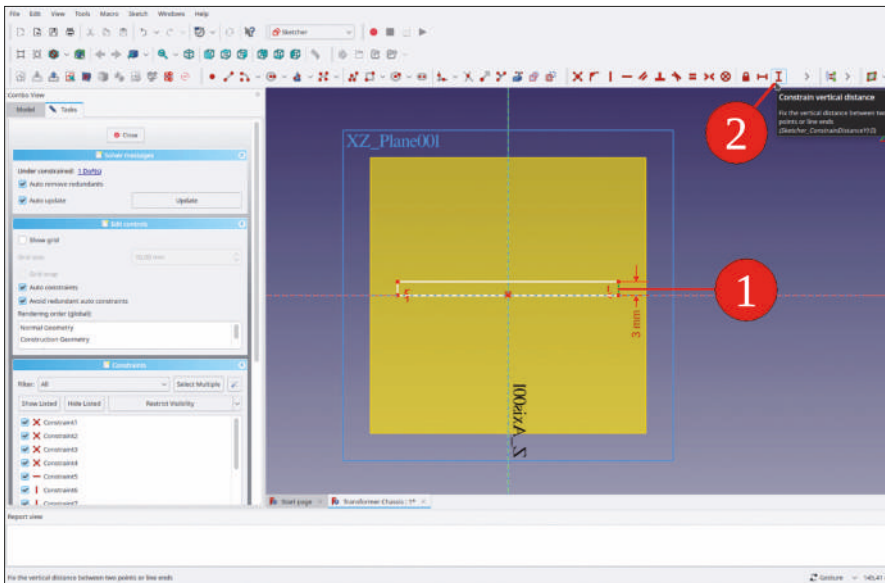

Figure 9-52
11. Set the height of the rectangle: Mark one of the vertical sides of the rectangle and click the 'Constrain vertical distance' tool button. Enter a value of 3 mm for the thickness of the sheet (Figure 9-52).